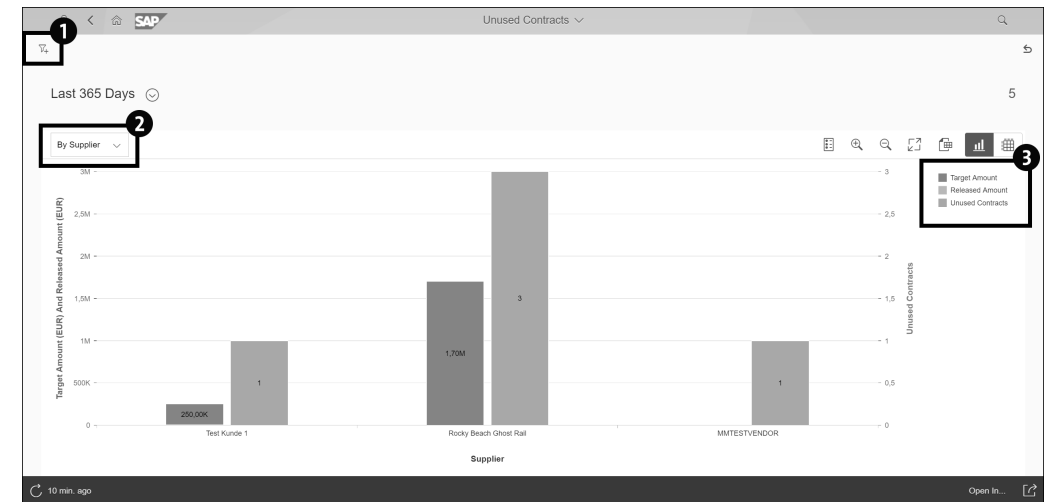

Figure 8.15 Unused Contracts
This app identifies all the contracts that haven't been used within the last 365 days from the current date and displays the target and released amounts (Figure 8.15). The output can be displayed by supplier, purchasing group, purchasing organization, purchasing document category, or document in tabular format or as a chart. You can drill
In Figure 8.15 ❶, you can filter by purchase contract, calendar year, purchasing group/organization, supplier, currency, company code, and who it was created by. You may select **By Supplier** to search by supplier, by purchasing group or organization, or document ❷. Note that the table is coded by **Target Amount**, **Released Amount**, and **Unused Contracts** ❸.